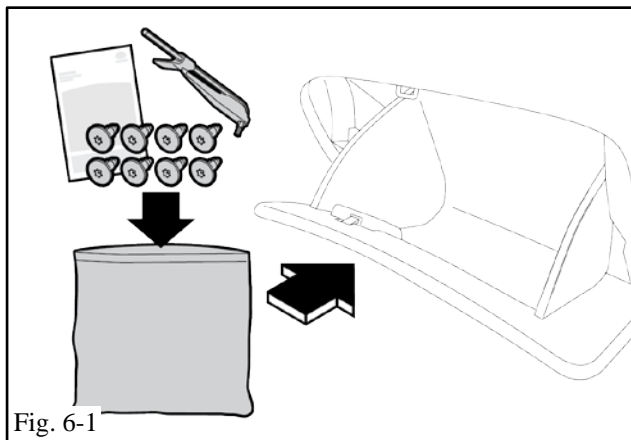

Fig. 6-1
- (b) Place bag with content into vehicle's glove box (Fig. 6-1).